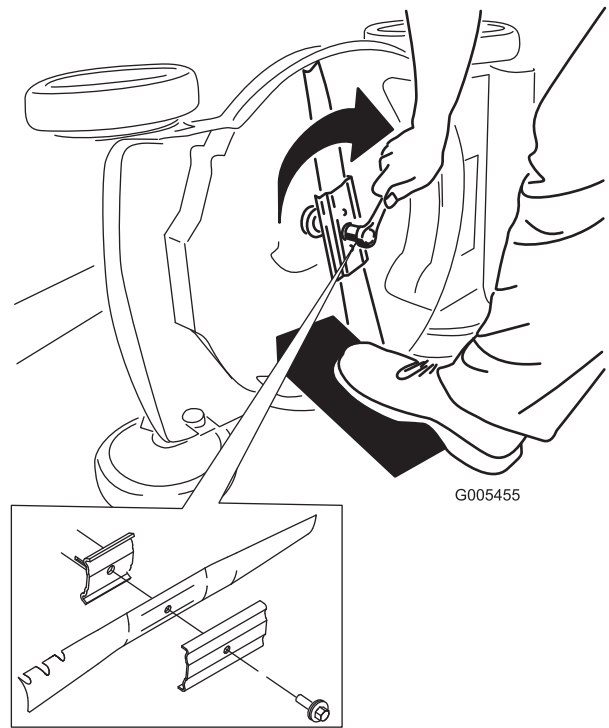

Figure 27
5. Install the new blade and all mounting hardware (Figure 27).